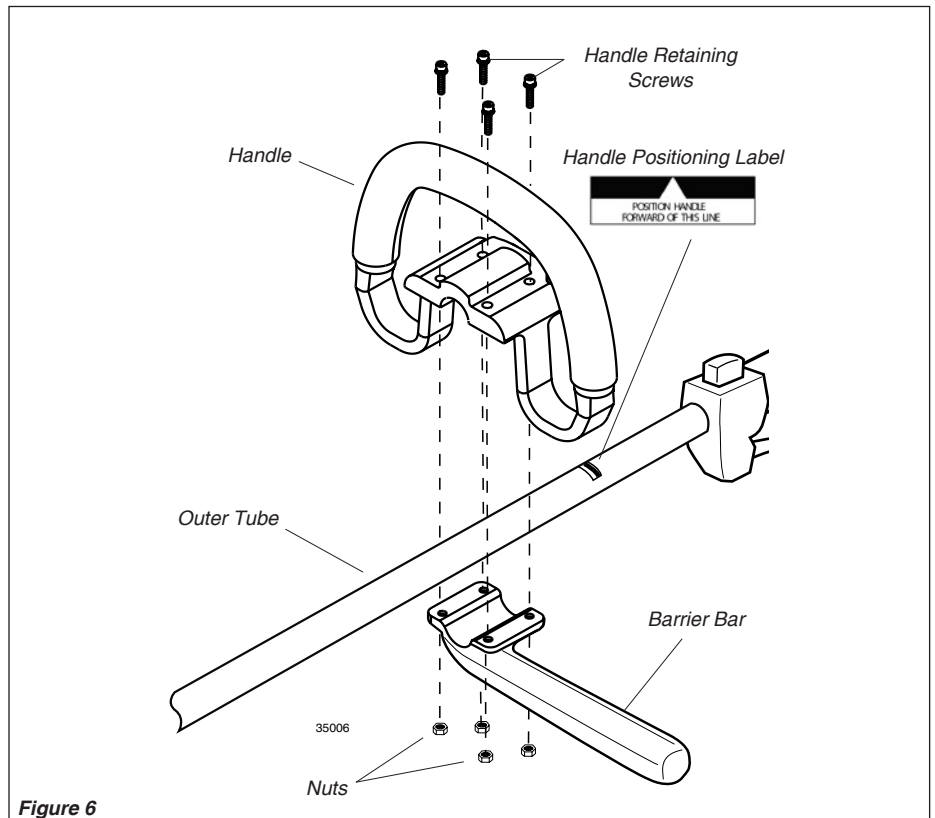

Figure 6
1. Position the handle on the outer tube forward of Handle Positioning Label as shown in Figure 6.
2. Install the handle and barrier bar onto the outer tube with the socket head cap screws and nuts as shown in Figure 6. Tighten the screws finger-tight ONLY at this time.